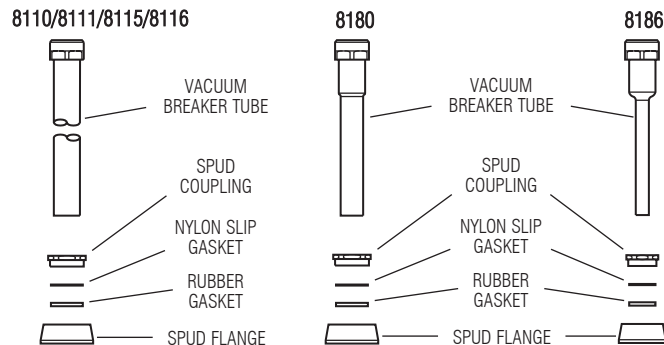

Figure 5
Step 3 — Install Vacuum Breaker Flush Connection (Figure 5)